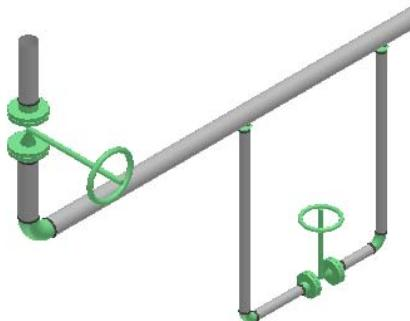

Figure 37: Placed Component
30. An outline of a gate valve (base part) with mating flanges will appear in the graphic view at the active placement point. The software uses P&ID and the design basis to select the appropriate component. Key in **90 deg** in the **Angle** drop-down list to rotate the valve. Click **Finish** on the **Insert Component** ribbon to place the pipe component, as shown in Figure 37.